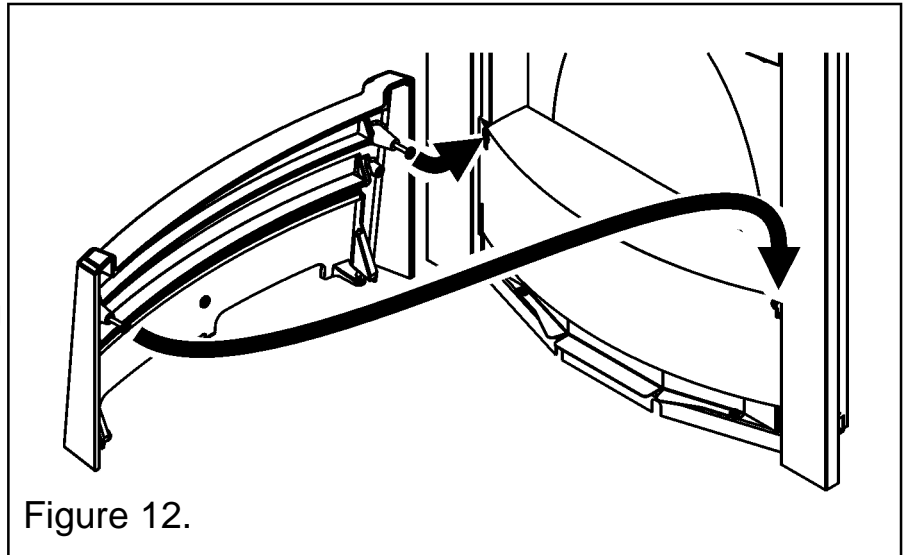

Figure 12.
- Fit the two casting hanging screws (Supplied) to the casting (See figure 10). Locate the casting hanging screws into the key hole slots in the fuel support (See figure 12). It may be necessary to adjust the length of the hanging screws to obtain a snug fit. Position the ash pan cover under the casting.